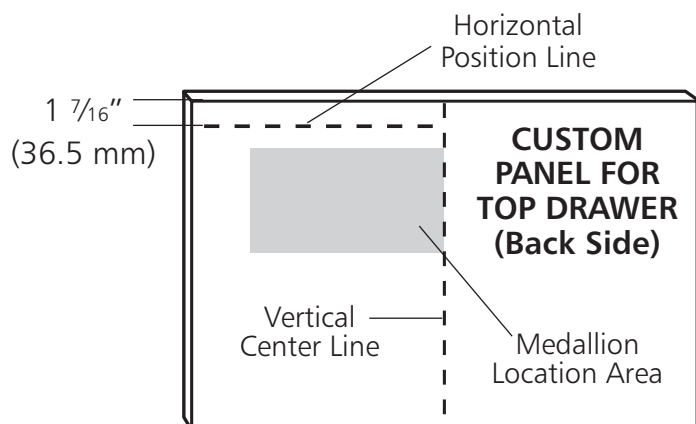

FIGURE 3A
- 10) On the backside of the top drawer custom door panel, measure and mark the vertical center line and horizontal position line (See figure 3A).